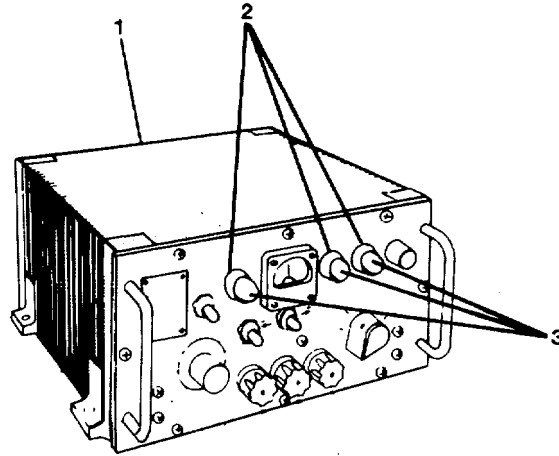

FIGURE 2-3. Gyro Control and Power Assembly Lamp Replacement.
2-14. Repair Gyro Control And Power Assembly. (FIGURES 2-3, 2-4, and 2-5)
- (1) On gyro control and power assembly (1, FIGURE 2-3), remove appropriate lampholder lens (3) by turning counterclockwise.
- (2) Push in on appropriate lamp (2) and turn counterclockwise and remove.
- (3) Position replacement lamp (2) in appropriate lampholder, push in and turn clockwise.
- (4) Thread lens to appropriate lampholder and secure by turning clockwise.
- (5) Start compass (TM 55-1905-223-10).